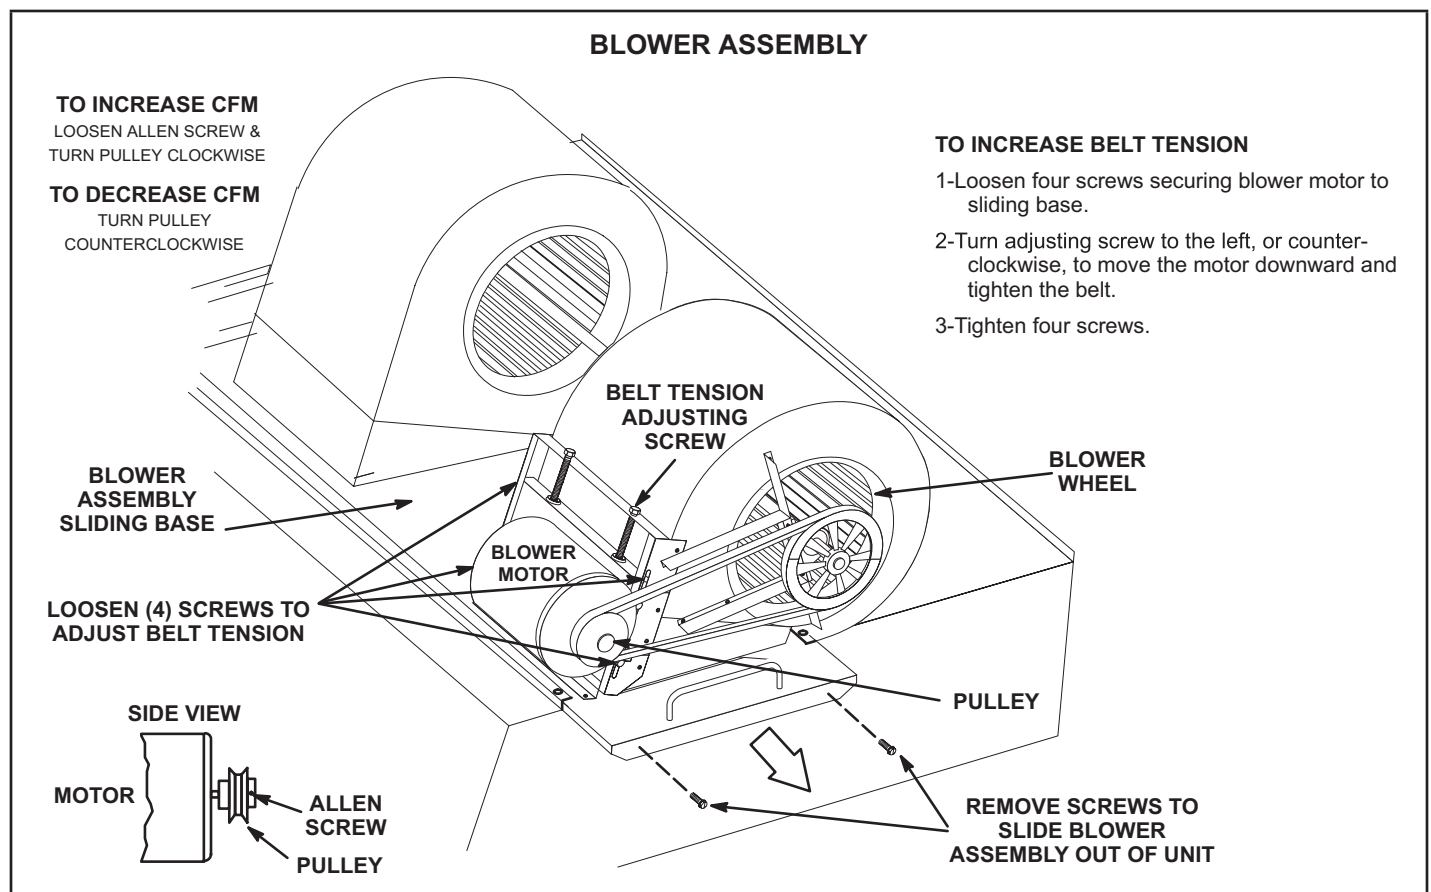

FIGURE 20
- 2 - Remove screws on either side of blower assembly sliding base. See FIGURE 20.
- 4 - The blower RPM can be adjusted at the motor pulley. Loosen Allen screw and turn adjustable pulley clockwise to increase CFM. Turn counterclockwise to decrease CFM. See FIGURE 20. Do not exceed minimum and maximum number of pulley turns as shown in TABLE 4.
- 1 - Loosen four screws securing blower motor to sliding base. See FIGURE 20.